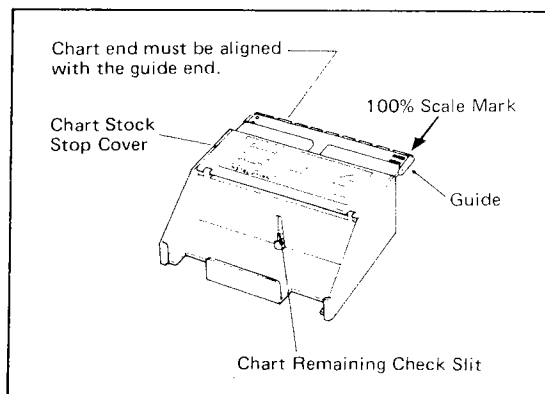

Figure 5-9. Chart Stock.
- (7) Load the chart with its back face upward.
- (8) Chart end (tear off at perforation) should be aligned with the guide end.
- (9) When the chart stock top cover is closed, the chart condition must be as shown in Figure 5-9.